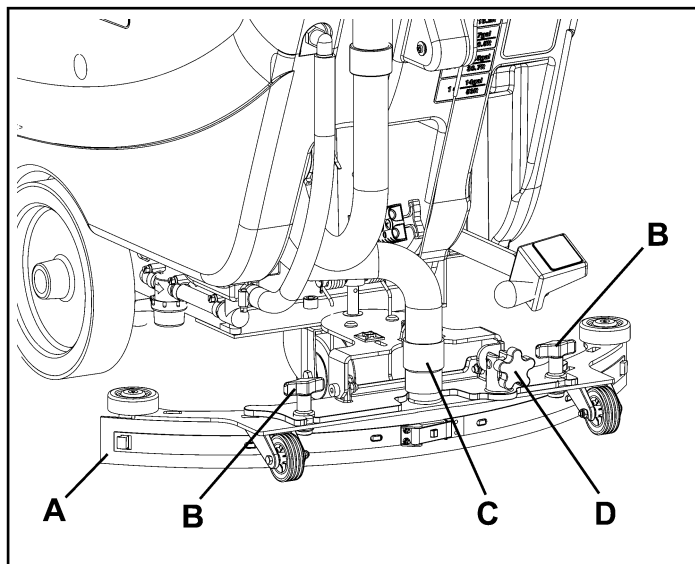

Figure 13
1. Install the squeegee (A, Fig. 13) and fasten it with the knobs (B), then connect the vacuum hose (C) to the squeegee.
2. Adjust the squeegee with the knob (D) so that the rear blade touches the floor along all its length.
Deck with one brush, brush diameter: 17in (430 mm)	Aluminum (A, Fig 13), width 29.9 in (760 mm)